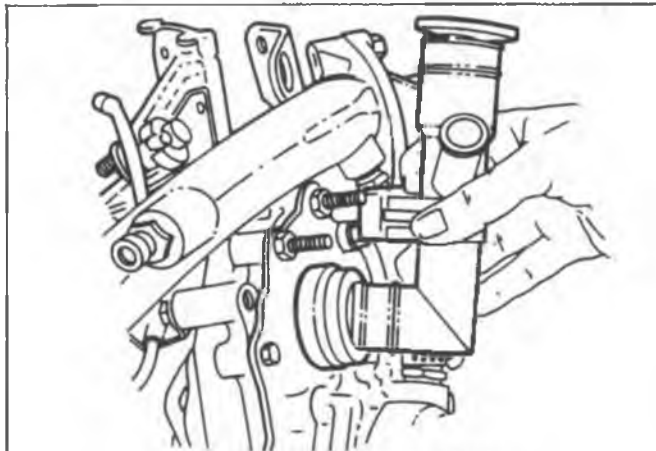

Fig. 2-20 Removing Oil Filler Pipe
8. Remove oil fill tube, including PCV vent hose assembly (Fig. 2-20).